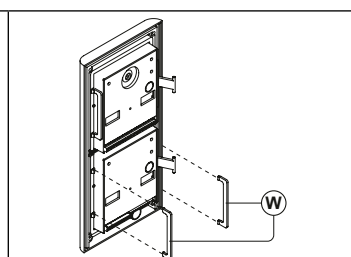

Fig. 8
Fit the anti-tampering locks (W) as shown in **Fig. 8**.